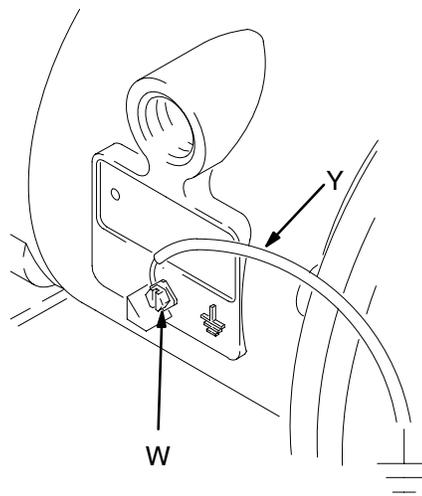

Fig. 1
Polypropylene and PVDF are **not** conductive. Attaching the ground wire to the grounding lug grounds only the air motor. When pumping conductive flammable fluids, **always** ground the entire fluid system by making sure the fluid has an electrical path to a true earth ground. See Fig. 1.
- *Pump:* Connect a ground wire and clamp as shown in Fig. 1. Loosen the grounding screw (W). Insert one end of a 12 ga (1.5 mm²) minimum ground wire (Y) behind the grounding screw and tighten the screw securely. Connect the clamp end of the ground wire to a true earth ground. Order Part No. 237569 Ground Wire and Clamp.